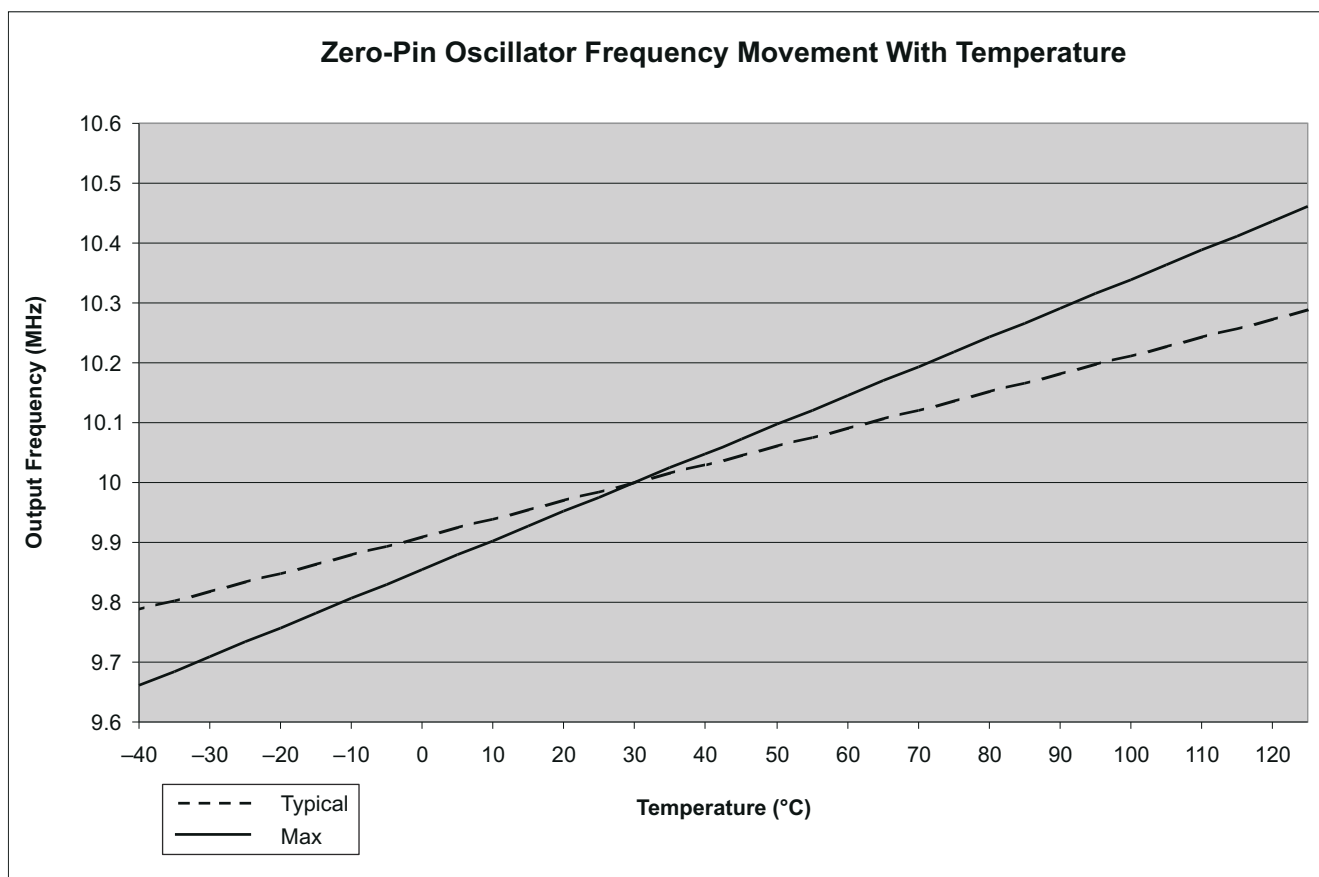

图 7-9. Zero-Pin Oscillator Frequency Movement With Temperature
- (1) Oscillator frequency will vary over temperature, see 图 7-9. To compensate for oscillator temperature drift, see the Oscillator Compensation Guide and C2000Ware.
- (2) Frequency range ensured only when VREG is enabled, $\overline{\text{VREGENZ}} = V_{\text{SS}}$.
- (3) Output frequency of the internal oscillators follows the direction of both the temperature gradient and voltage (V_{DD}) gradient. For example: